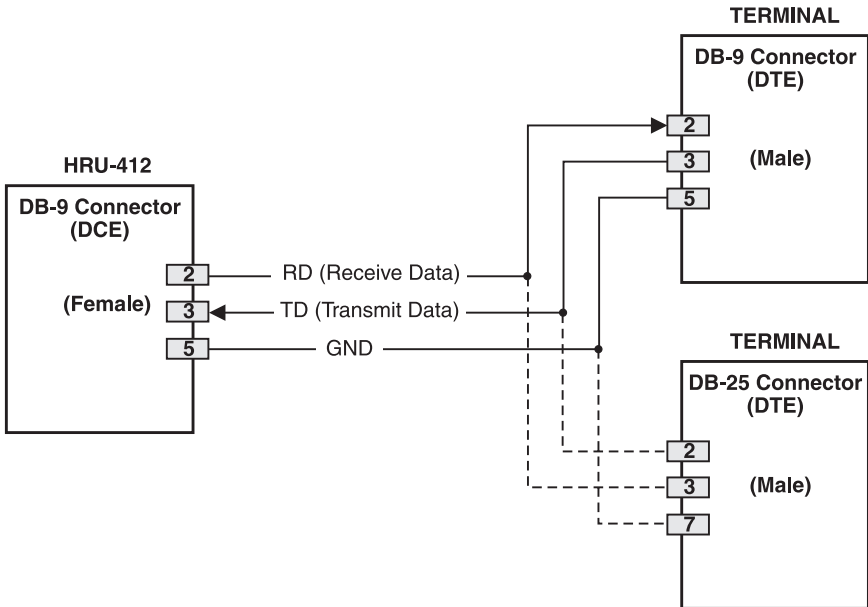

Figure 4. HRU-412 List 8B Craft Port Wiring Configuration
- 1 Connect a standard 9-pin serial terminal cable to the Craft (RS-232) port (DB-9 female connector) on the HRU-412 List 8B. See Figure 4 for the wiring configuration.